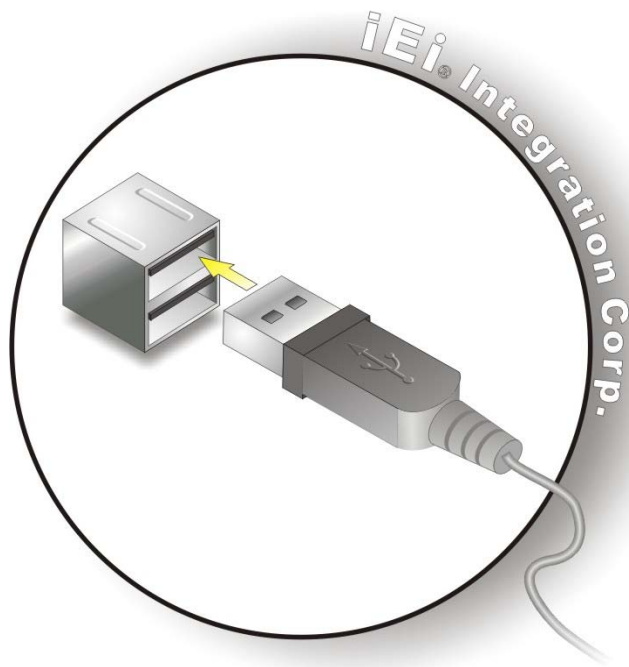

Figure 4-18: USB Connection
Step 2: Insert a USB Series "A" plug. Insert the USB Series "A" plug of a device into the USB Series "A" receptacle on the external peripheral interface. See **Figure 4-18**.